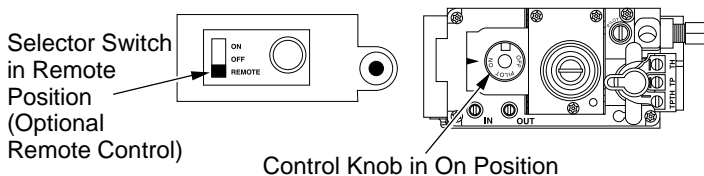

Figure 49 - Setting the Selector Switch, Control Knob, and Flame Adjustment Knob for Remote Operation
1. After lighting, let pilot flame burn for about one minute. Turn control knob to ON position. Adjust flame adjustment knob anywhere between HI and LO. Slide the selector switch to the REMOTE position (see Figure 49). **Note:** The burner may light if hand-held remote was on when selector switch was last turned off. You can now turn the burner on and off with the hand-held remote control unit.